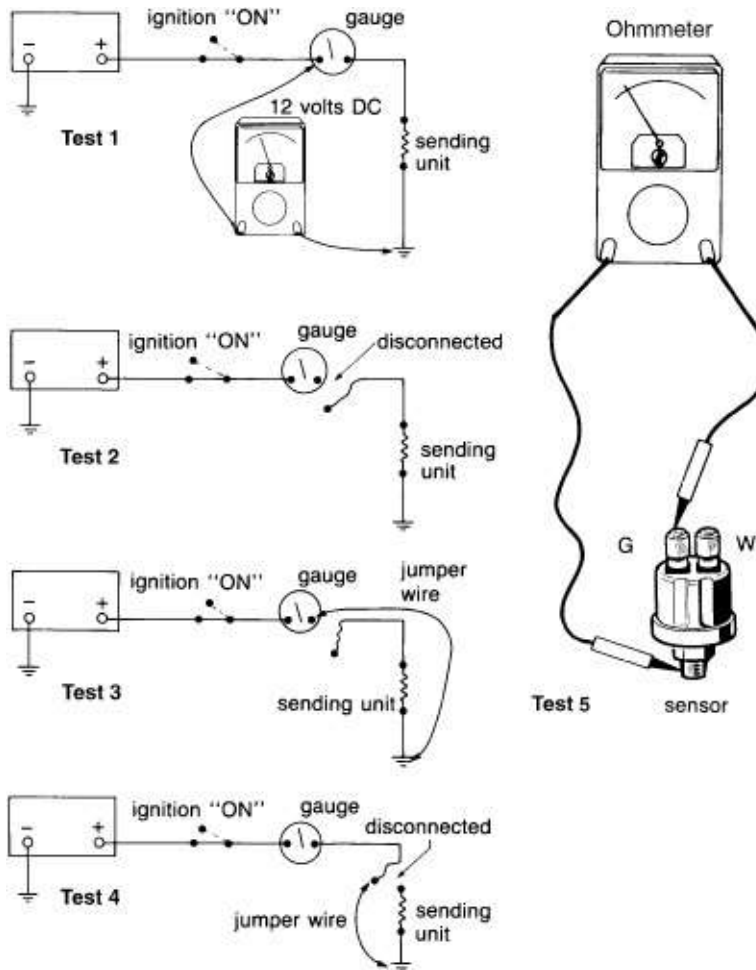

FIGURE 5-36. Testing a gauge circuit (left) and sending unit (right). (Courtesy VDO)
1. Test for 12 volts from the gauge positive terminal to a good ground (see Figure 5-36, Test 1). No volts—the ignition switch circuit is faulty; 12 volts—proceed to the next step.
2. Disconnect the sensing line (which goes to the sending unit) from the back of the gauge (see Figure 5-36, Test 2). A temperature gauge should go to its lowest reading; an oil pressure gauge to its highest reading, although just to confuse things, a few behave the same as a temperature gauge!
3. Connect a jumper (a screwdriver will do) from the sensing line terminal on the gauge to the negative terminal on the gauge (or a good ground on the engine block if there is no negative terminal; see Figure 5-36, Test 3). A temperature gauge should go to its highest reading; an oil pressure gauge to its lowest reading (except as noted above).
disconnect it at the sending unit on the engine (see Figure 5-36, Test 4). A temperature gauge should go to its lowest reading; an oil pressure gauge to its highest reading (except as noted above). Short the sensing line to the engine block. A temperature gauge should go to its highest reading; an oil pressure gauge to its lowest reading (except as noted above). If not, the sensing line is faulty (shorted or open-circuited). The most likely trouble spot is in the plug connector for the main engine wiring harness (generally found toward the back of the engine). Undo the plug and check all the sockets and pins for damage or corrosion and correct as necessary. Most times, this will cure wiring problems. If not, make sure the ignition switch is turned off, then use an ohmmeter ($R \times 1$ scale on an analog meter) to test the sending line first from the gauge to the relevant terminal on the plug, then from the other half of the plug to the sending unit. You should get a very low resistance both times. Infinity, or a high resistance, indicates resistance, or a break, in the circuit.
- To test a sending unit, switch off the ignition, disconnect all wires, and test with an ohmmeter ($R \times 1$ scale on an analog meter) from the sending unit to a good ground (see Figure 5-36, Test 5). Most temperature senders vary from around 700 ohms at low temperatures, to 200 to 300 ohms at around 100°F (40°C), down to almost 0 ohms at 250°F (120°C), while most oil pressure senders vary from around 0 ohms at no pressure to around 200 ohms at high pressure. However, there are differences from one manufacturer to another, and some gauges may work in the opposite direction; the important thing is to get a clear change in resistance with a change in temperature or pressure.